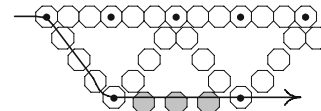

Fig. 8
3. Pick up the three support beads and bring the needle through the next connector bead until the support row has been completed (Fig. 8).